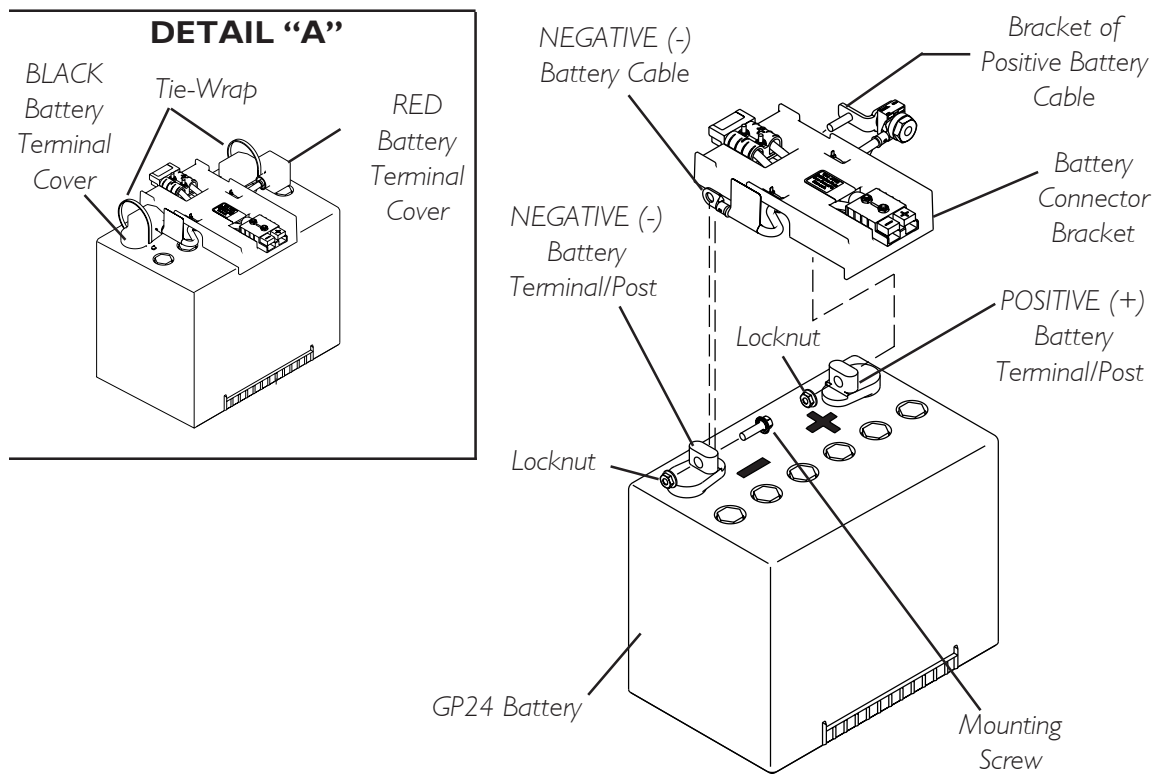

FIGURE 6 - REPLACING GROUP 24 BATTERIES - REAR BATTERY WITH BATTERY CONNECTOR BRACKET
Rear Battery with Battery Connector Bracket (FIGURE 6)
2. Cut the tie-wraps that secure the battery terminal covers to the battery terminals. Refer to Detail “A” in FIGURE 6.
3. Perform the following: (Detail “A” in FIGURE 6)